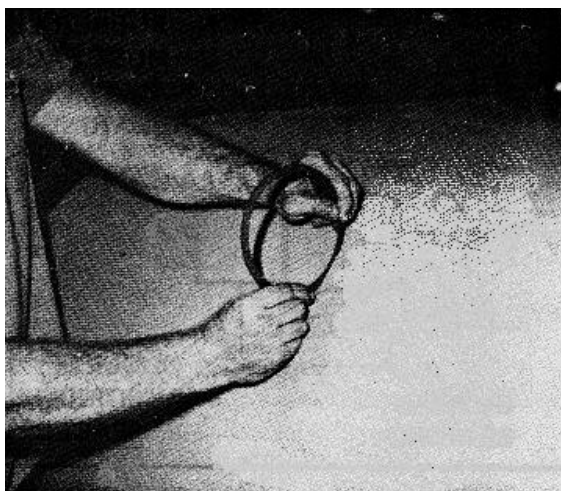

FIGURE 9-109.
h. Check to see if clearance between guide rolls is within specifications. If correct clearance does not exist, remove one drum and adjust shim pack between center spacer and bearing to maintain .010 - .030 in. (.25 - .76 mm) clearance (see figure 9-109).